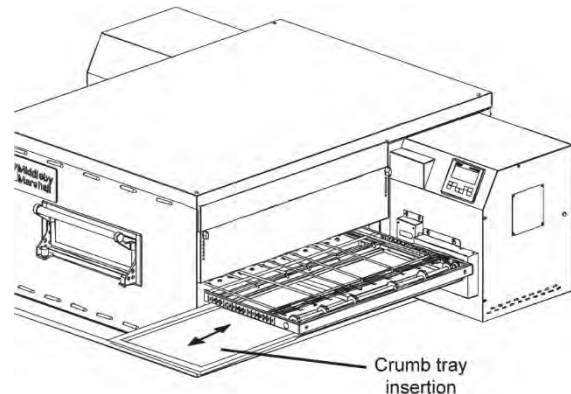

Figure 18. Crumb Trays
1. Install the crumb trays underneath the conveyor as shown in Figure 18.